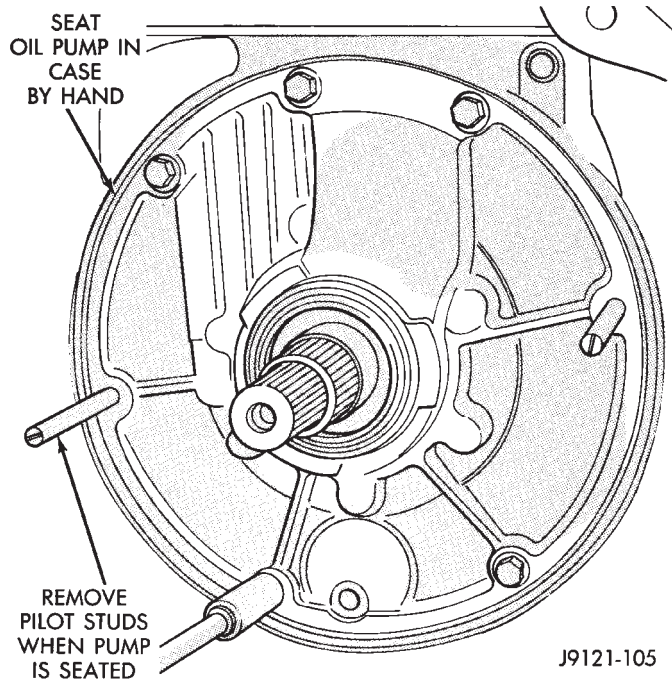

Fig. 141 Oil Pump
(5) Lubricate oil pump seals with petroleum Mopar® ATF Plus 3, type 7176.
(6) Mount oil pump on pilot studs and slide pump into case opening (Fig. 141). **Work pump into case by hand. Do not use a mallet or similar tools to seat pump.**
(7) Remove pilot studs and install oil pump bolts. Tighten pump bolts alternately and evenly to fully seat pump in case. Then final-tighten pump bolts to 20 N·m (15 ft. lbs.) torque.